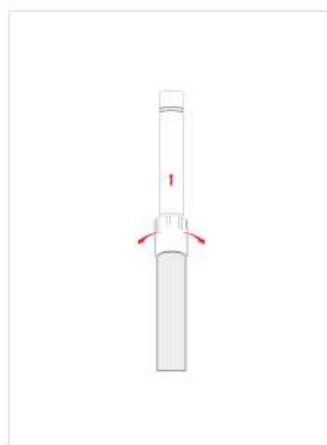

Figure 2
2. Loosen the thumbwheel at the top of the tube to release its extensible part, adjust to the desired height and tighten the thumbwheel. Figure 2